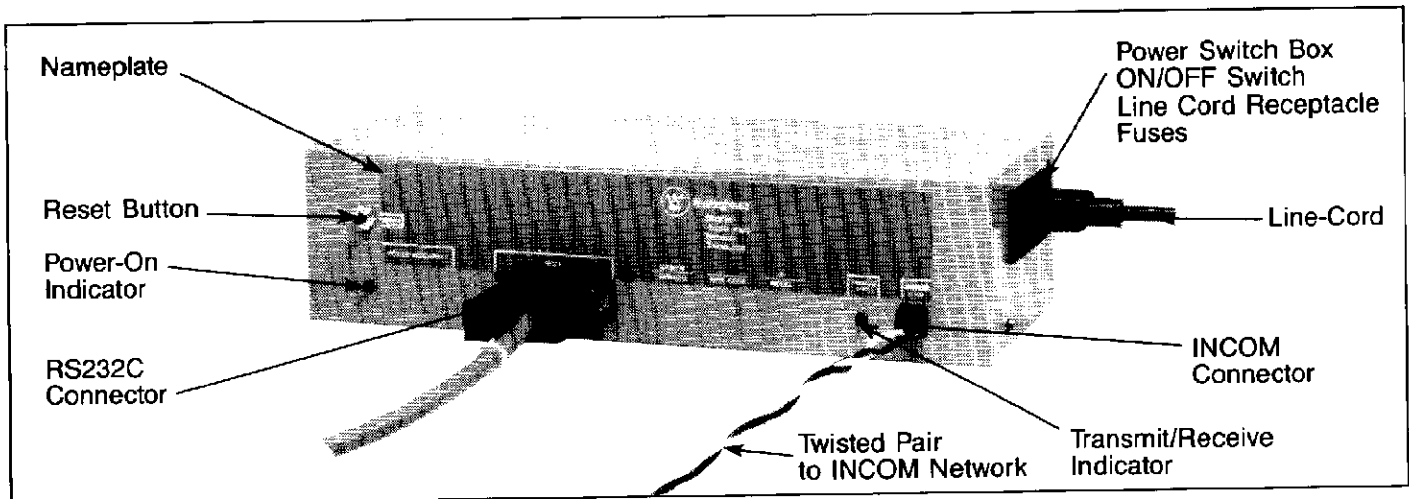
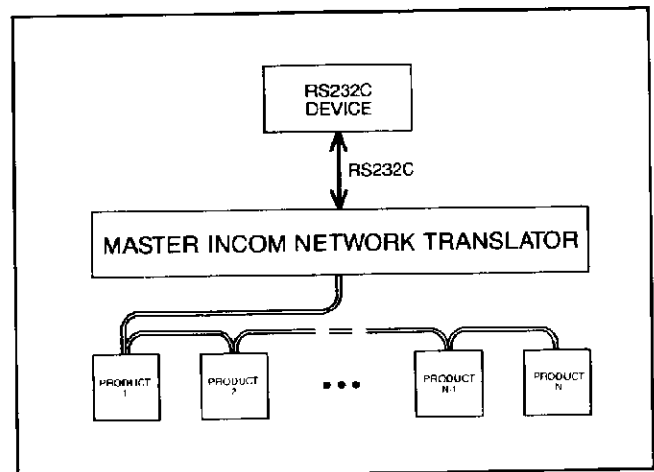

Fig. 1 Master INCOM Network Translator Assembly
Fig. 2 Network Interwiring
The Master INCOM Network Translator (MINT) (depicted in Figure 1) translates the 33 bit binary message used on the Westinghouse INCOM local area network to and from a 10 byte ASCII encoded Hexadecimal RS232C message. The MINT enables any device with an RS232C port to function as an INCOM network master.
The MINT has a 25 socket "D" subminiature connector which allows connection of the MINT to an RS232C master device such as a personal or mainframe computer, programmable controller, etc. The MINT has a two-wire plug-in connector for connection to the INCOM network. (See Figure 2.)
Refer to Figure 1.
To put the MINT into operation (See Figure 1):
3. Connect the two-wire INCOM Network to the INCOM connector on the front panel using the plug-in connector provided. (See Figure 1 and Figure 2).